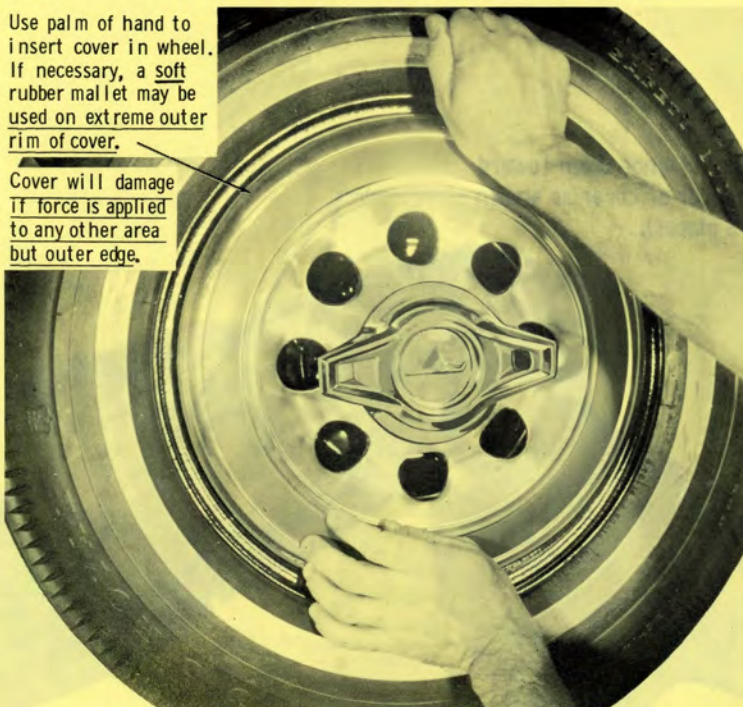
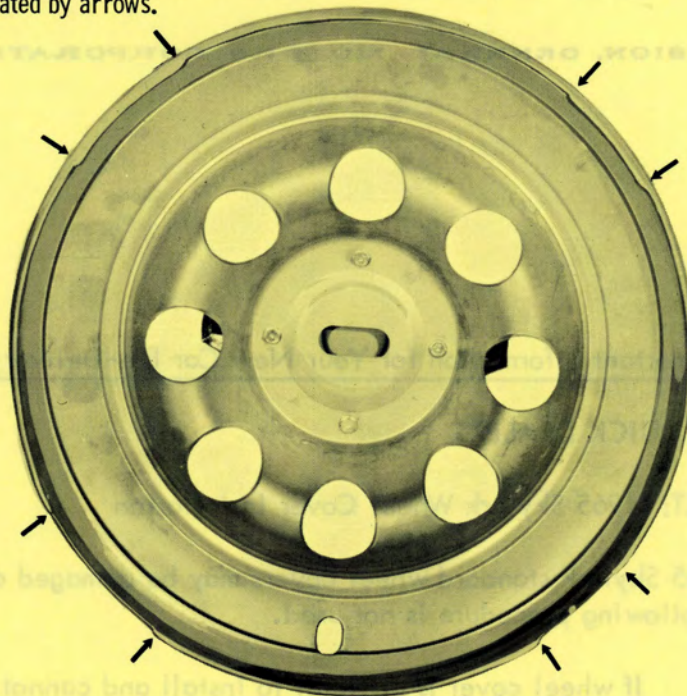

FIGURE 1
FIGURE 2
Step 1. If wheel cover is difficult to install and cannot be installed as indicated in Figure 1, it will be necessary to bend the edge of the retaining flange as shown in Figures 2 and 3.
Step 2. If necessary, rework cover flange at the eight locations shown in Figure 2 and 3. Then install cover following instructions in Figure 1.